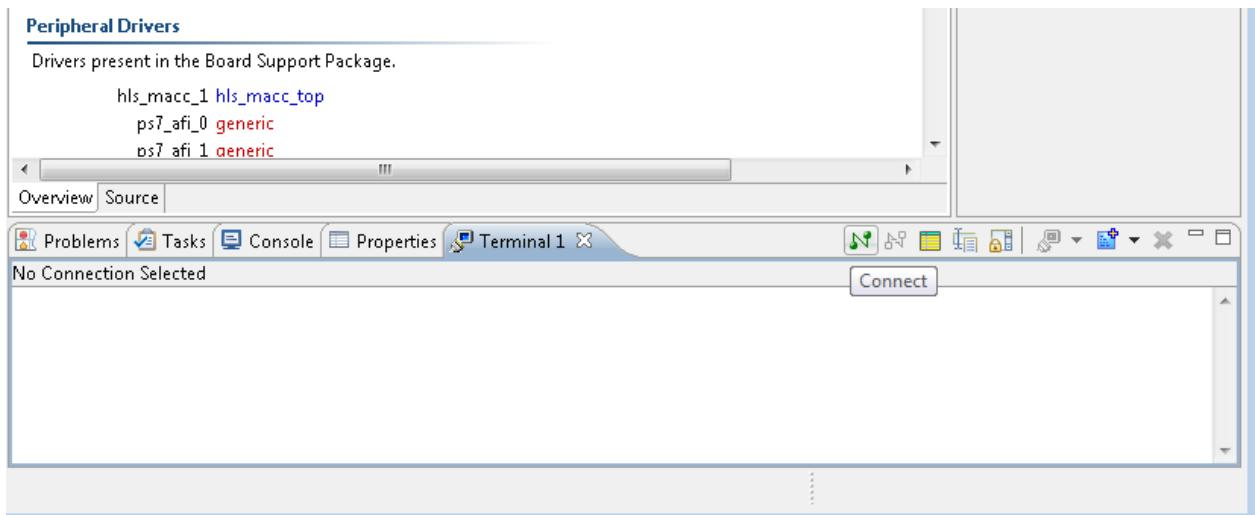

Figure 244 The Connect Icon
- a. Click on Connect icon (Figure 244)